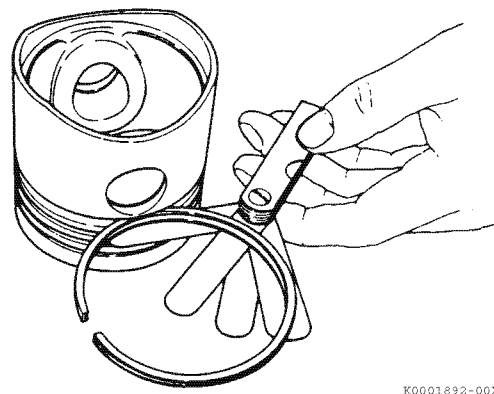

Figure 6-64
9. Place each compression piston ring in the groove as shown (**Figure 6-64**). Use a feeler gauge to measure the clearance between the piston ring and the piston ring land. Record the measurements. See *Piston Ring on page 6-8 for specifications*. Replace the piston if not within specification.